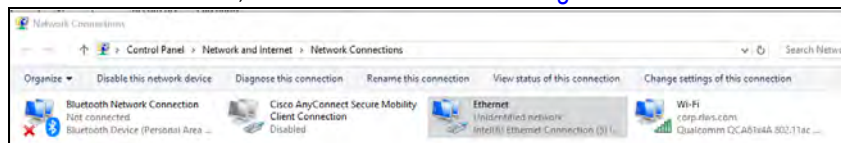

Figure 2-7. Network Connections
4. In the Network Connections window, double click Ethernet. See Figure 2-7.